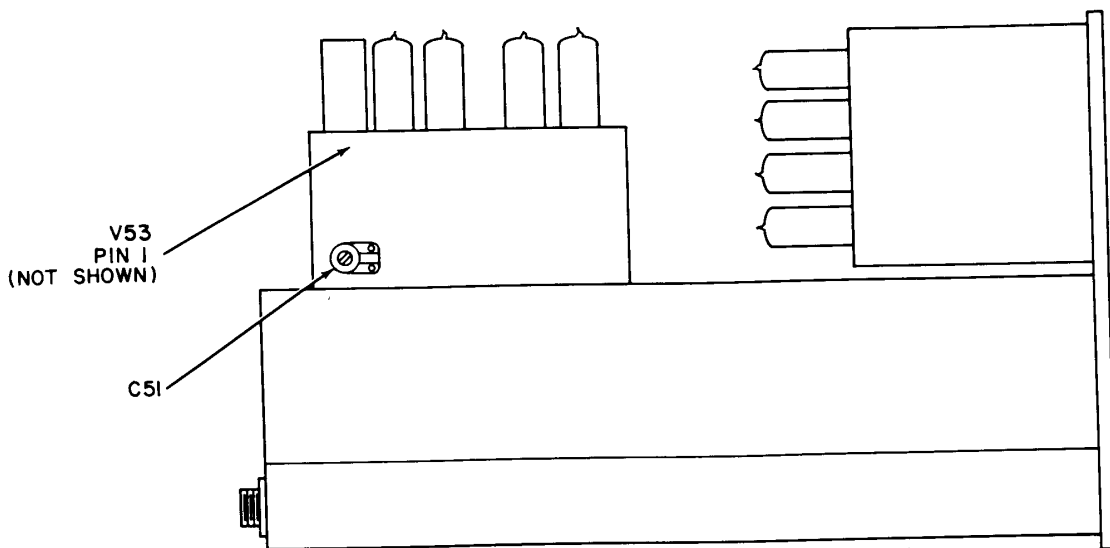

Figure 1. Electronic counters - left side view
- (1) Set frequency counter (A3) AC-DC switch to AC.
- (2) Connect frequency counter to V53 pin 1 (fig. 1) on test instrument using cable assembly (B1).
- (3) Position controls on test instrument as listed in (a) through (c) below.
- (4) Frequency counter shall indicate between 99.990 kc and 100.010 kHz.
- (5) Annotate FREQUENCY on DA Form 2416.
b. Adjustments. Adjust C51 (fig. 1) for frequency counter indication of 100.00 kHz.